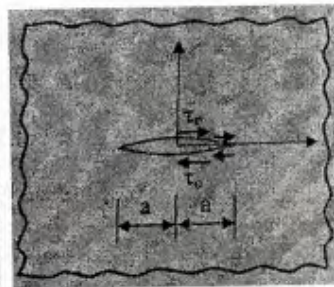

Fig. 7(b)
- b) Determine the SIF at the right crack tip for the case shown below. Shear stress varies linearly from  $\tau_0$  at centre to zero at the crack tip (Fig.7(b)). (10) 1 3